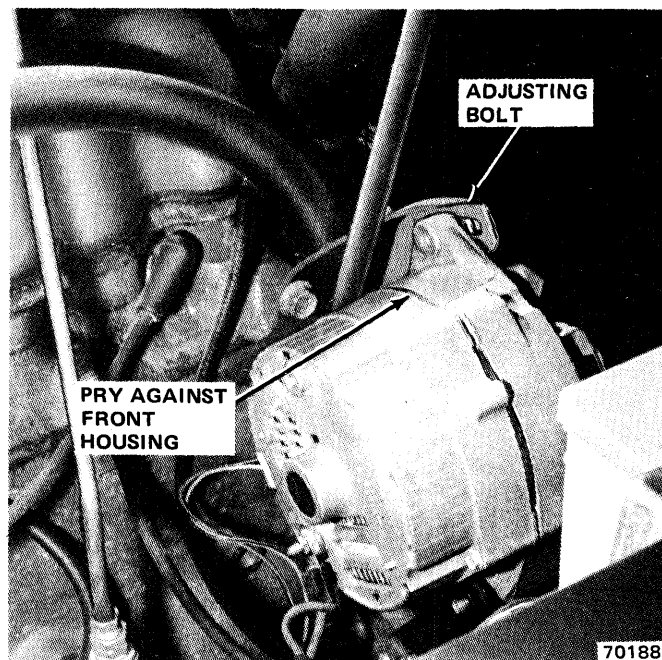

Fig. 2-10 Alternator Adjustment—Six-Cylinder
(1) Loosen alternator pivot mount bolt and alternator adjusting bolt.
(2) Adjust belt using pry bar and 1-inch, open-end wrench on V-8 engines. Snug adjusting bolt (fig. 2-10 and 2-11).